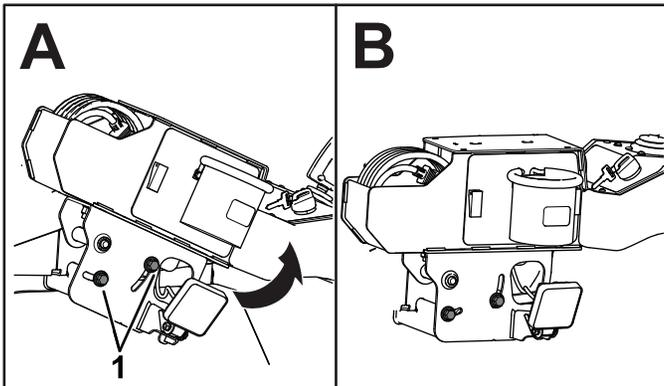
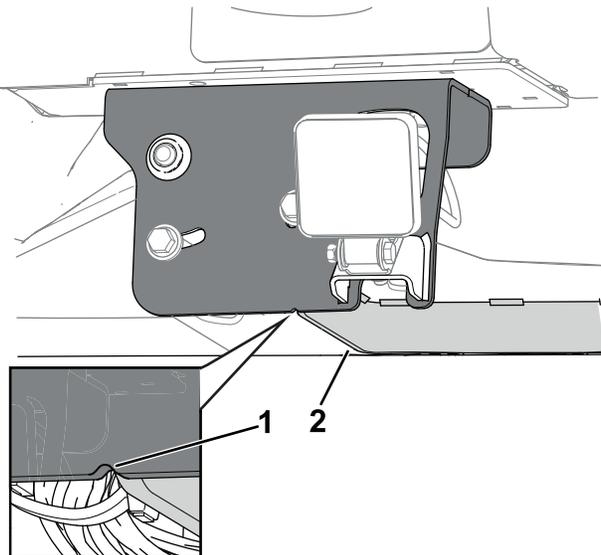

Figure 10
Figure 11
1. Loosen the 2 screws (M8) on the console pivot plate and rotate the console upwards (Figure 10) until the alignment mark lines up with the harness shield (Figure 11).